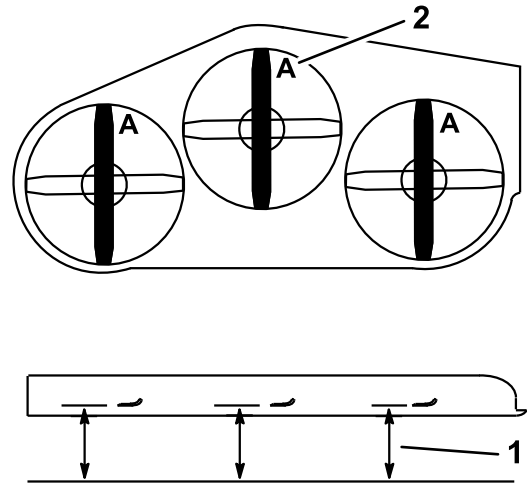

Figure 94
3. Rotate the blades until the ends face forward and backward (Figure 94). Measure from a level surface to the cutting edge, position A, of the blades (Figure 94). Note this dimension.